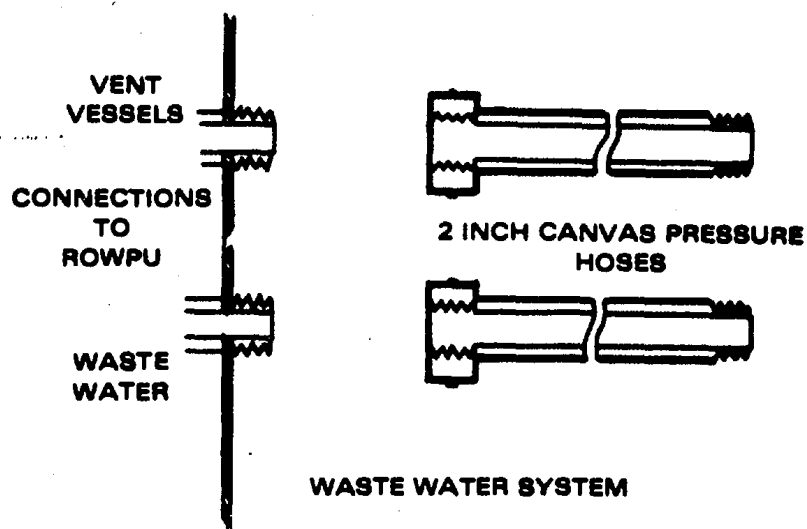

Figure 2-36. Waste Water System
t. Hook up waste water and vent vessels systems (fig 2-36). Start at ROWPU with hose going down and away from the ROWPU, ending well downstream of raw water intake.